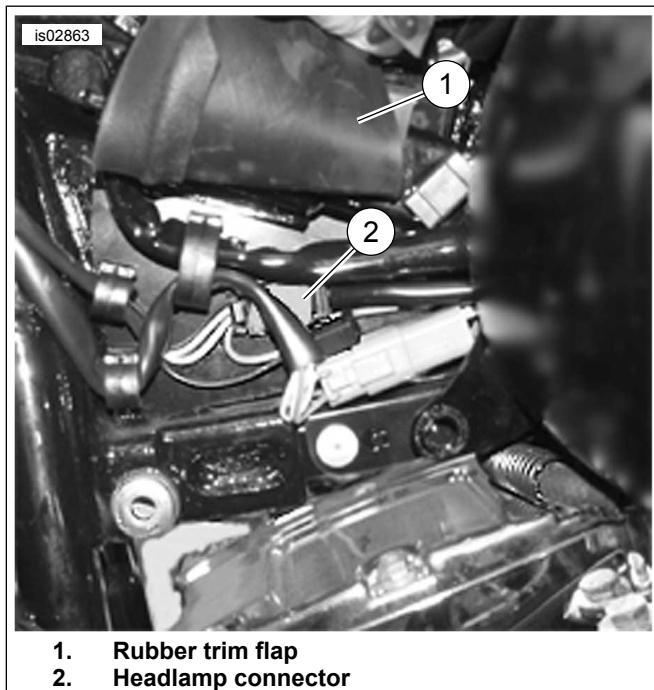

Figure 4. Headlamp Connector [38] (frame backbone, left side)
1. See Figure 4. On the right side, lift up the rubber trim flap (1), separate the turn signal connector [31] (2) and pull the wire bundles from the frame clip.